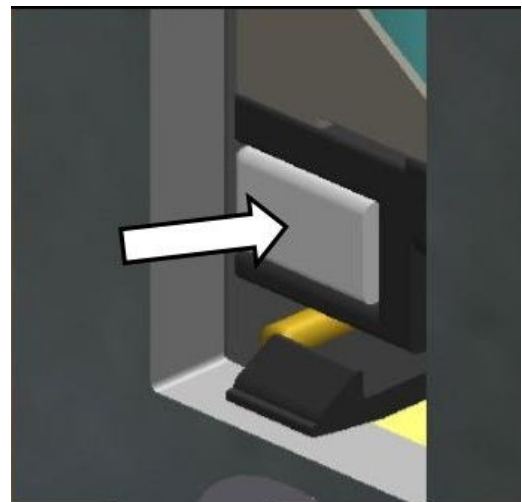

Fig. 4.2 – GDL7m pairing button
- ▶ Before attaching the battery compartment cover, the GDL7m must be paired with the Gantner reader by pressing the pairing button (Fig. 4.2). See chapter "4.4 Pairing the GDL7m with the Gantner reader" for instructions on this process.